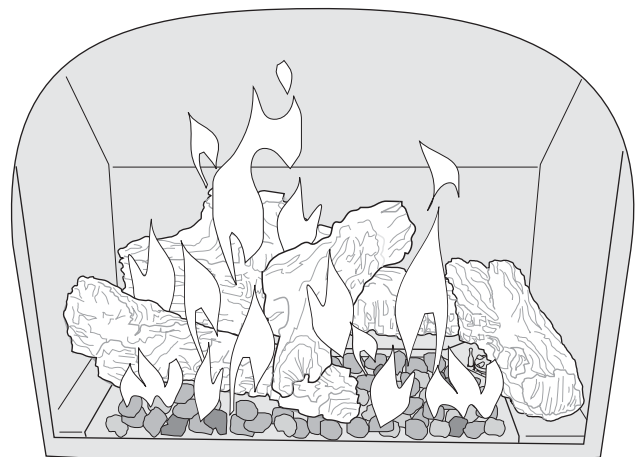

Figure 38. Flame appearance on the "high" setting after approximately 15 to 20 minutes burning.
**3. BURNER ADJUSTMENT:** This stove is equipped with a variable gas control valve that allows easy adjustment of the flame height appearance and heat output. To adjust the flame between the HI and LOW setting, rotate the HI/LOW knob, located in the center of the valve face. **Flame height will adjust approximately 1" to 2" between the LOW and HIGH settings. See fig. 38.**